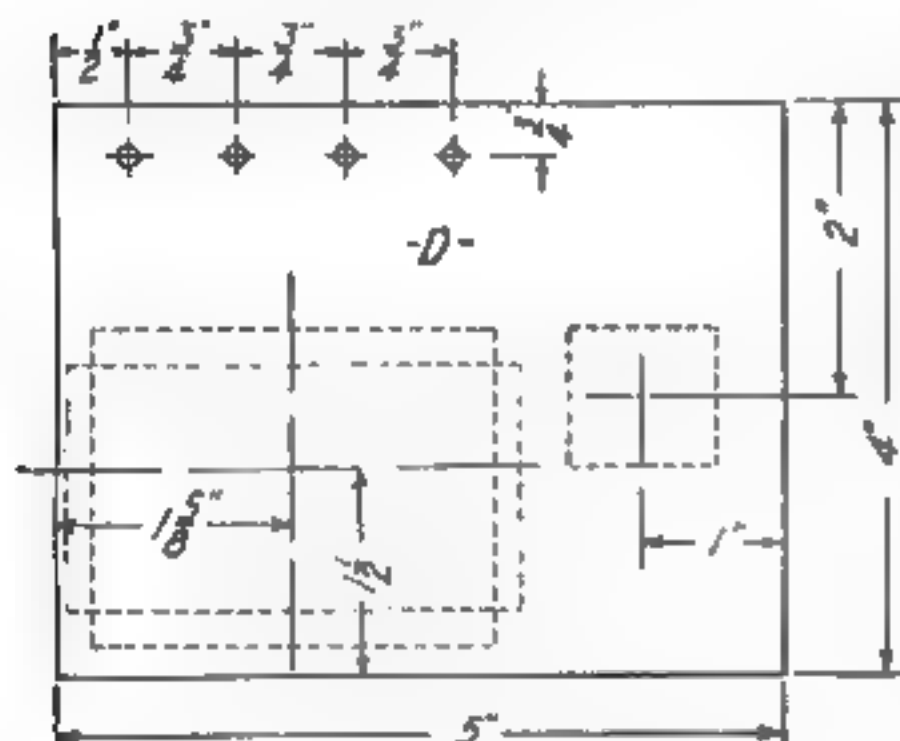

Fig. 5. Plan of arrangement of parts, with dimensions
The base (D) and the standard (E) are made of hard wood. The base should be about $\frac{1}{2}$ " thick. In Fig. 5, the plan of the arrangement of the parts is shown. The four small holes shown